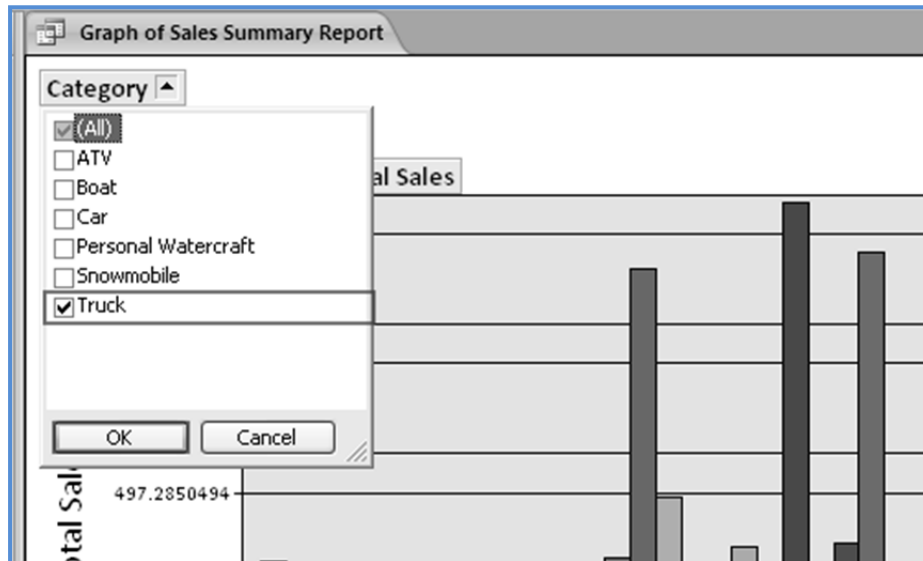

Fig. 1.2.72: Select Truck from Category
4. Open the drop-down in the *Category* Filter area, clear all checkboxes check the *Truck* checkbox and click **OK** as in Fig. 1.2.72.